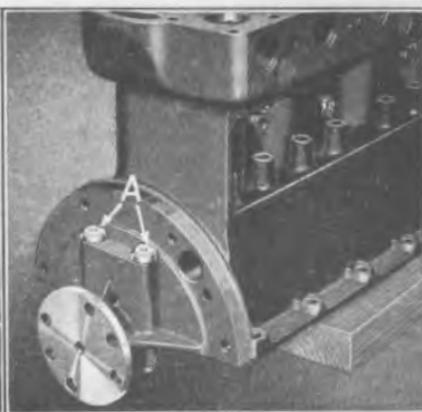

Fig. 258
- (c) The heads of the rear main bearing bolts are machined flat on one side of head. The flat side of head fits next to cylinder. This locks the bolt in position and prevents it from turning when running off nuts (See "A" Fig. 258).